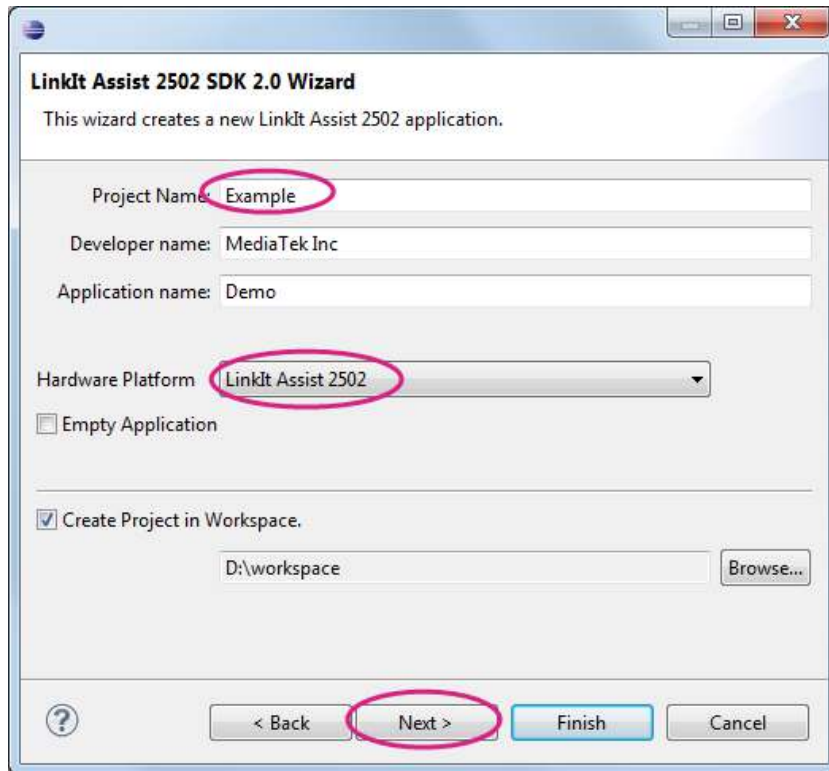

Figure 25 Creating a new LinkIt Assist 2502 application
- 2) In the **LinkIt Assist 2502 SDK 2.0 Example Wizard** give your project a new name and select the right hardware platform, as shown in Figure 25. Click **Next**.